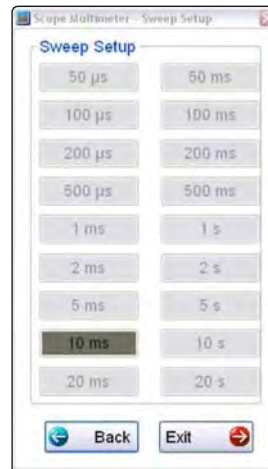

Figure 8-17 Sample Sweep Setup dialog box
2. Select the **Sweep** icon to open the sweep dialog box (Figure 8-17)